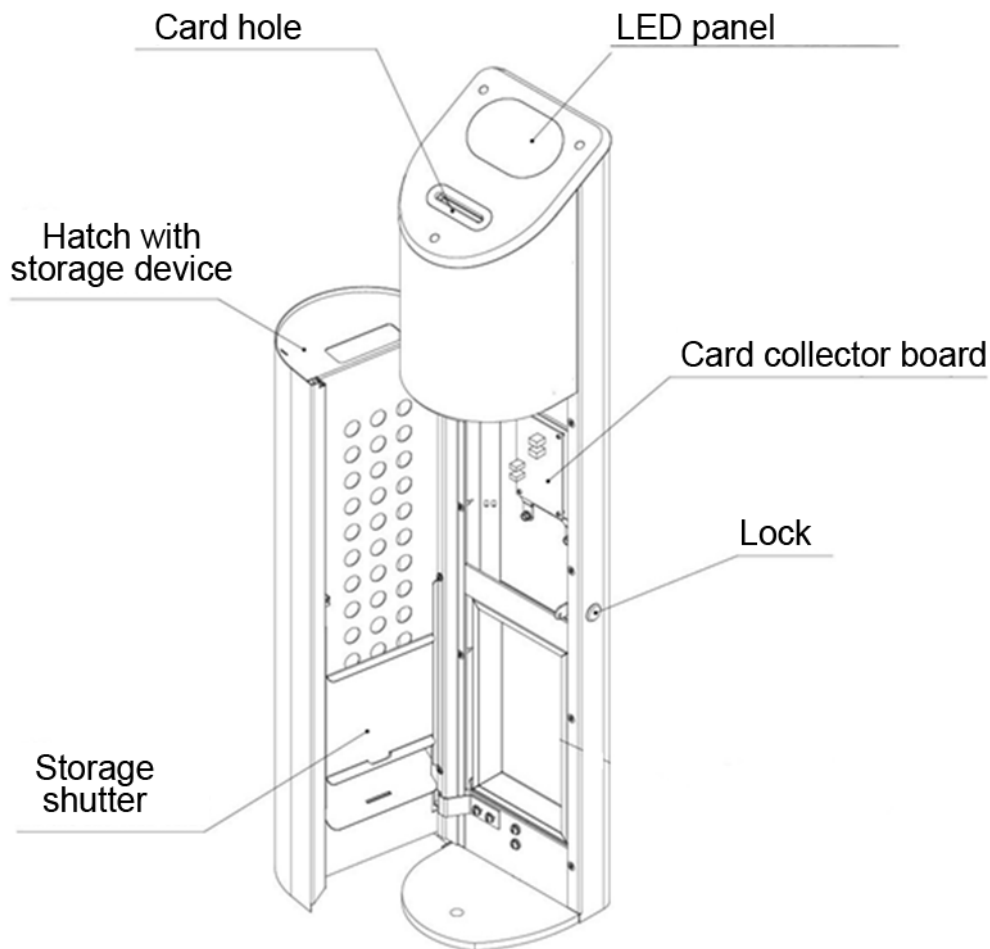

Fig. 4 General view of card collector
Card collector (Fig. 4) is designed for collection and storage of proximity access cards at the exit from the facility. Flexible logic of the controller allows the integration of the card reader with any access control systems.
7.3.1. Open the hatch lock of card collector with a key (Fig. 4).
- Open the hatch of the card collector using the key (Fig. 4);